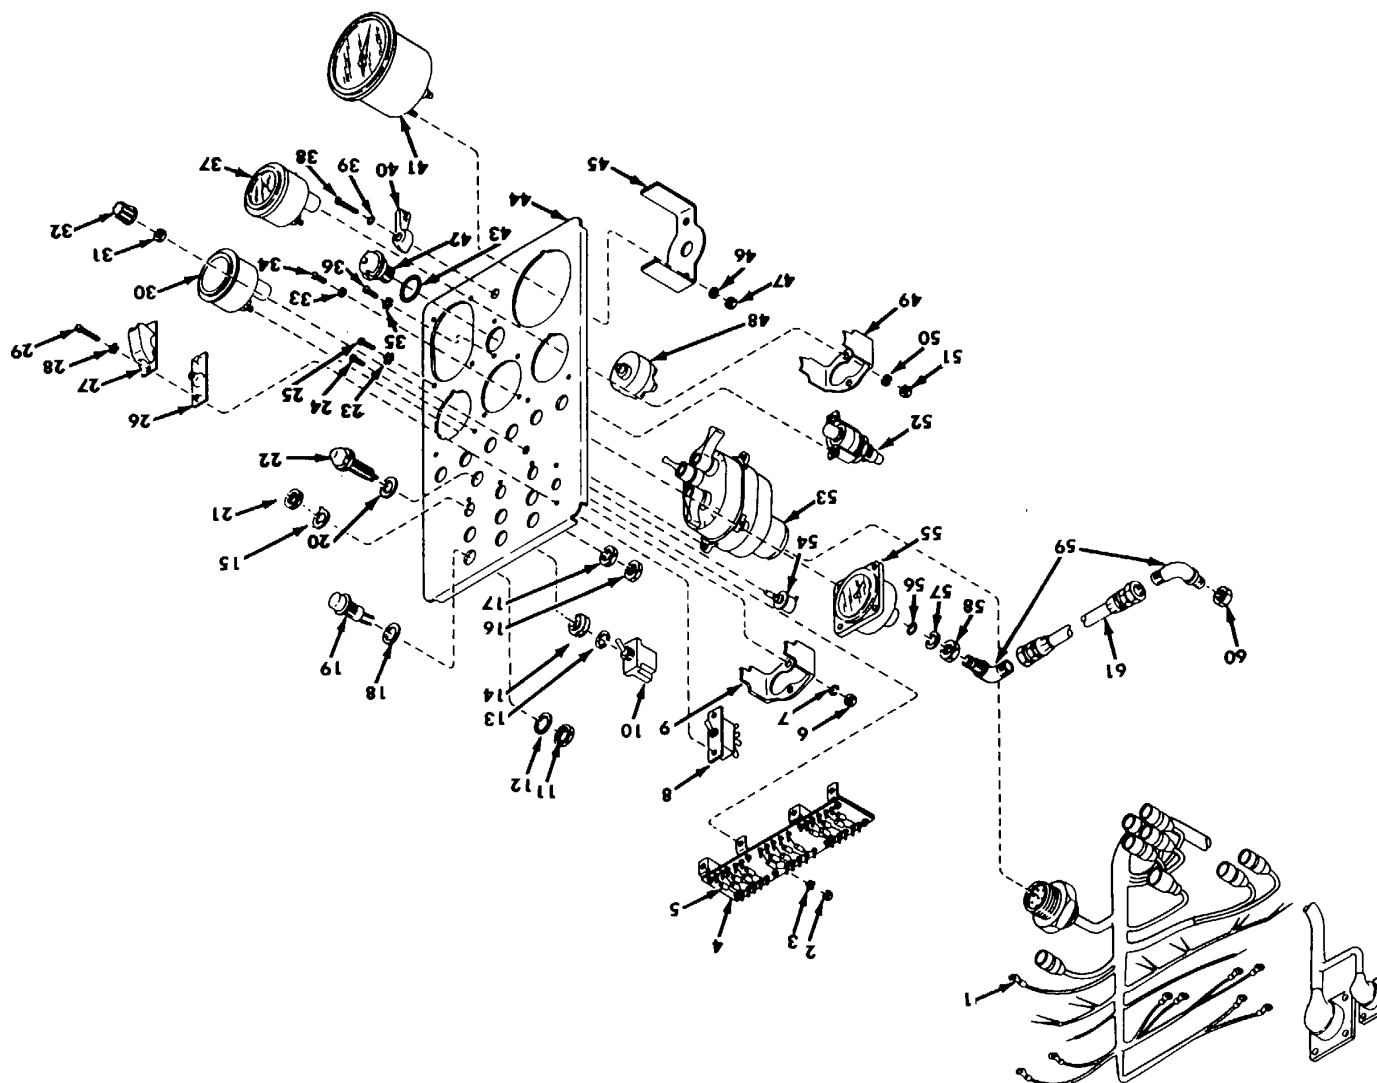

Figure 4-39. Disassembly of Distribution Box Panel Assembly (Sheet 1 of 2).
(6) *Terminal board assembly (4, fig. 4-39) and diodes (5, Fig. 4-39).*